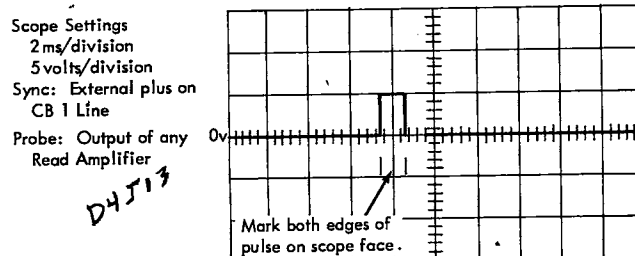

Figure 4-2. Marking Column One Data Pulse
3. Scope the output of one of the read photocell amplifiers and mark on the scope face the position of the column 1 data pulse (Figure 4-2).